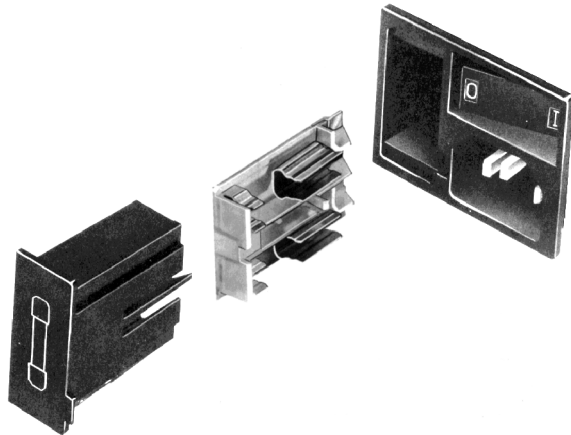

Figure 5.3: The fuse holder (with fuses), removed from the fuse box.
- 7 Once the fuse box is out, you will see a holder inside containing two fuses. Pull the fuse holder out of the box (see Figure 5.3).